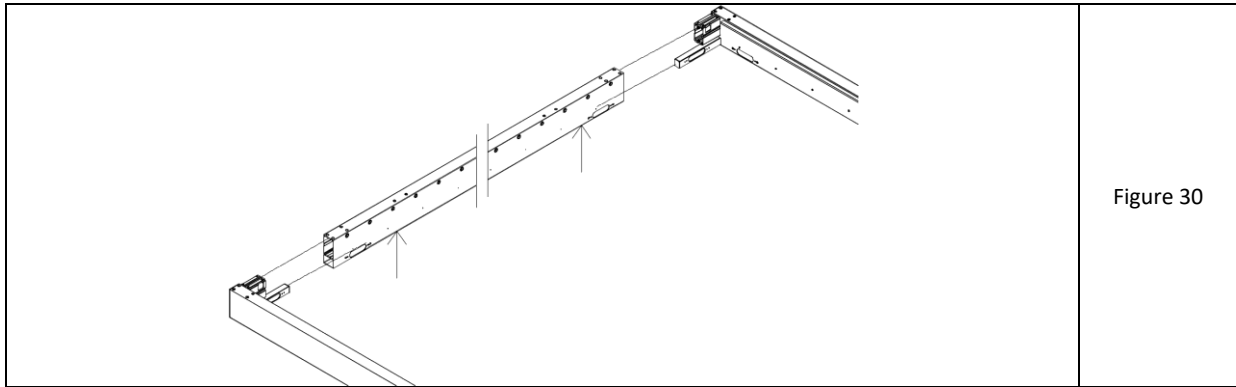

Figure 30
7. Insert both cross beams successively into the ends of the lengthwise beam fixed on the wall - bone to the upper chamber and the arm of the angular overflow to the lower chamber, the end cap adheres to the wall – fig. 30.